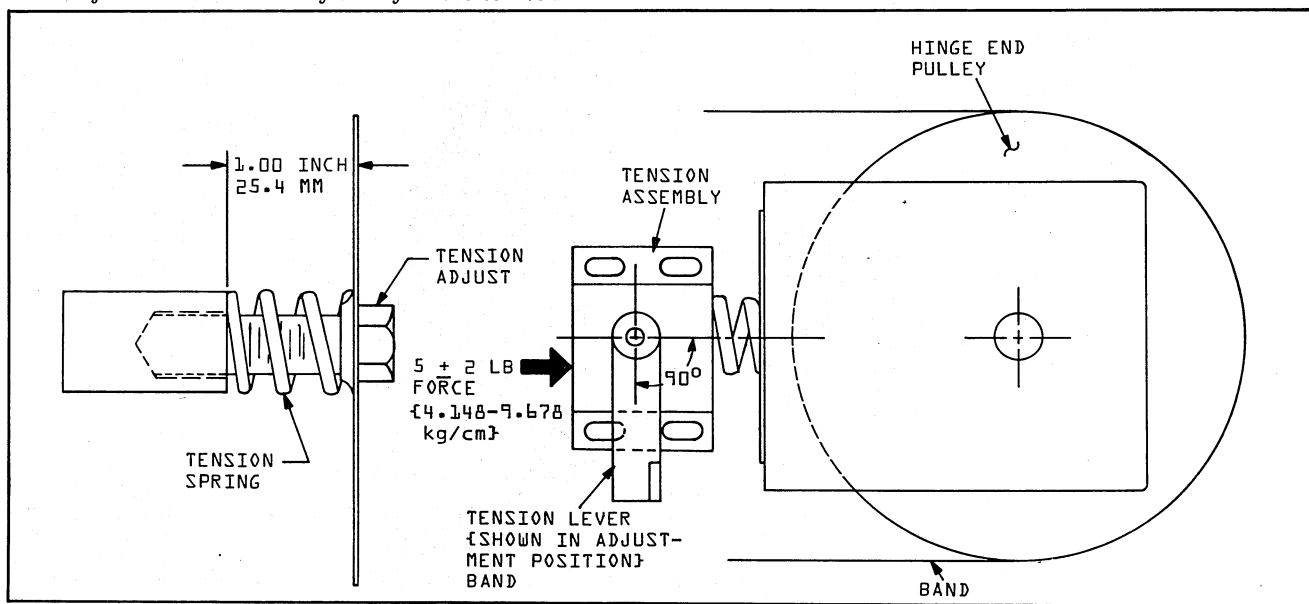

FIGURE 5-3. BAND TENSION ASSEMBLY ADJUSTMENTS
9. Place the band tension level in a 90° position. (See Figure 5-3).
10. Using a spring scale place a force of 5 ± 2 pounds (4.148-9.678 kg/cm) on the inside of the tension assembly. (See Figure 5-3).